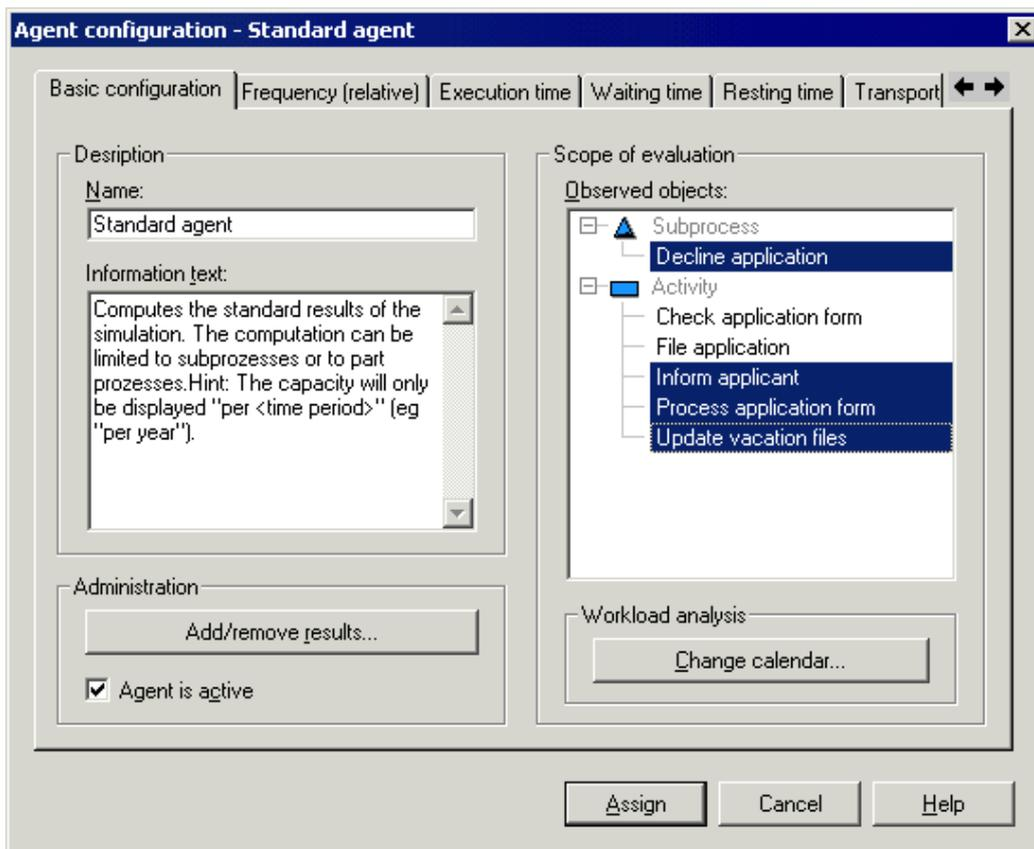

Figure 342: Configuring agents (example)
3. Click on the "**New**" button. The window "Agent configuration - *<Name of Agent>*" (see fig. 342), in which you can assign tasks to the new agent, will now be displayed.
| "Settings" | opens the window "Agent configuration - &lt;Name of Agent&gt; " (see fig. 342). You may then change some of the existing settings or add new tasks for the agent to carry out. |
An agent's behaviour is designed in the window "Agent Configuration - <Agent Name>" (see fig. 342). The window contains a tab for **"Basic configuration"** (see chap. 4.8.3.1, p. 397) and can contain tabs for the Evaluation Results (see chap. 4.8.4, p. 400) the agent is to calculate.
It is possible to specify which modelling objects the agent should take into account when calculating results and for which periods of time the agent is to calculate the results in the "Basic configuration" (see fig. 342) tab.
Define the results the agent is to animate in the "Animation" (see chap. 4.8.5.2, p. 412) tab in the "Agent configuration" (see fig. 342) window.
Within the "Number of changes in responsibility" (see chap. 4.8.5.3, p. 413) tab, within the window "Agent configuration" (see fig. 342) you must define whether the changes of responsibility are to be calculated for performers, resources or for other classes of your application library.